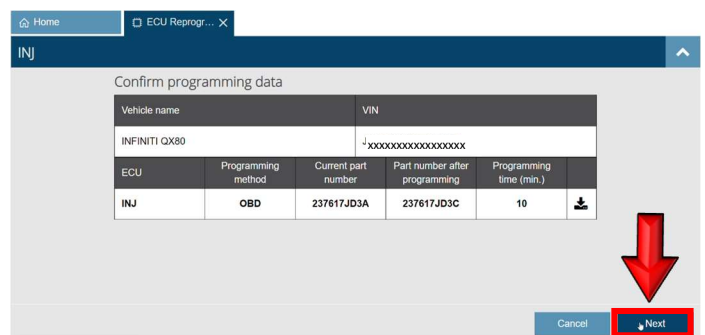

Figure 14
14. Verify the VIN is correct and select **Next** to download the software. (Figure 14)